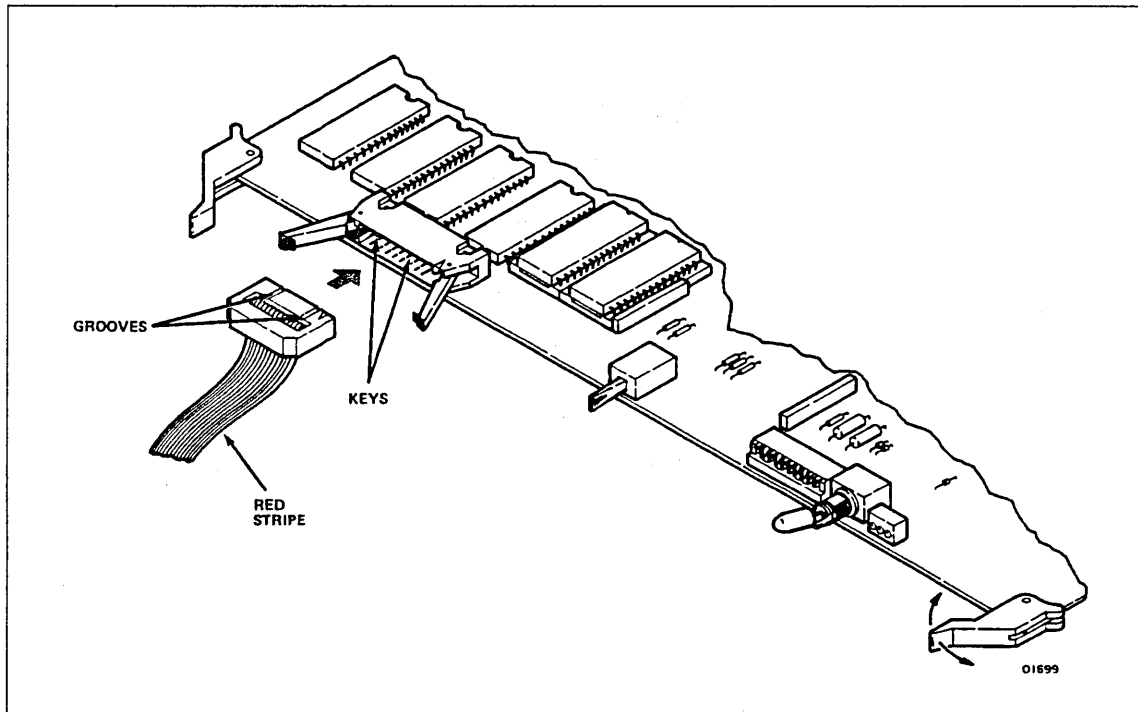

Figure 1-50. ESCI Connector Installation
7. Route the ESCI cable connector behind the vertical support rod and plug it into the ESCI board. You must ensure that the plug is properly connected by checking that the keys on the connector are aligned with the grooves on the plug, as is shown in figure 1-50. The red stripe on the cable must be on the top.